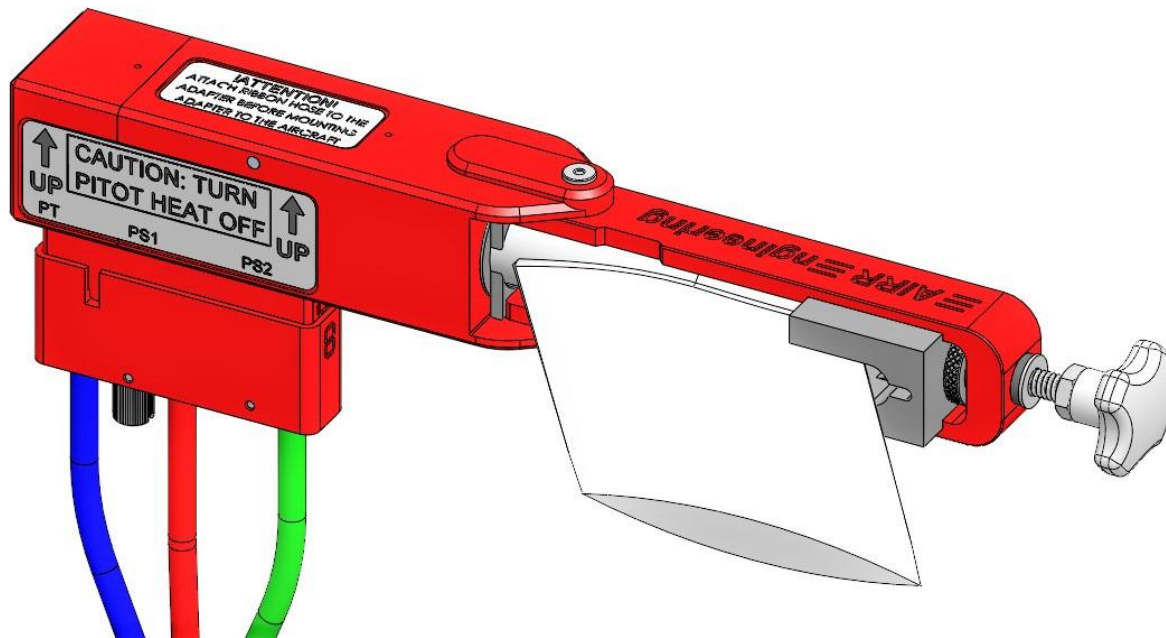

Figure 5: pusher retracted, adapter cam handle in the closed position
G. While supporting the adapter, rotate the cam handle 90° to the inline closed position (Figure 5).
F. Upon test completion, retract the pusher by rotating the knob counter-clockwise until it comes to a soft stop (Figure 5).